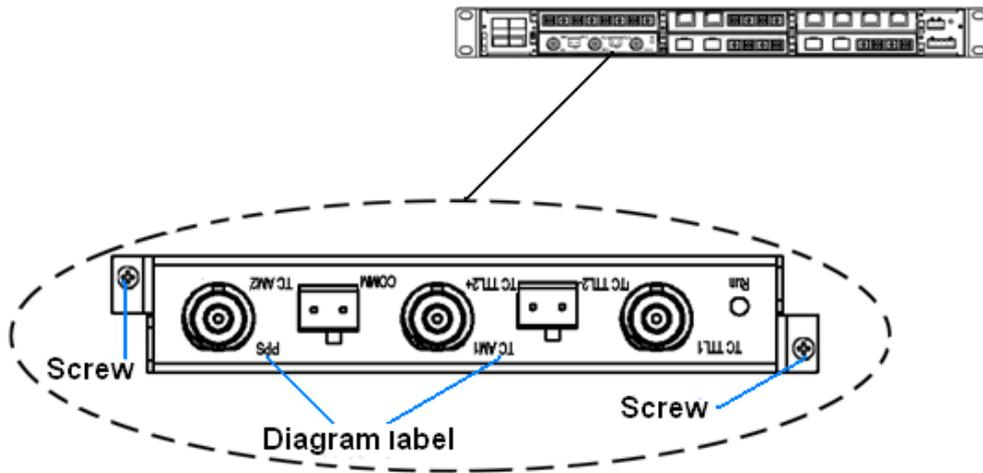

Figure 6 Module Installation 4
Step 2: Secure the module into the switch chassis with two screws (M2.5×5), as shown in Figure 6.